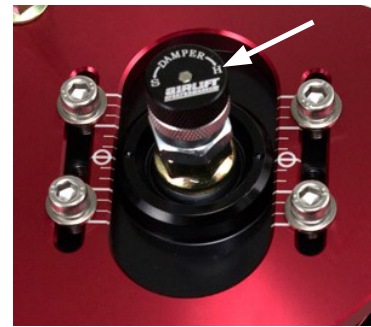

Fig. 1
3. Remove the damper adjustment knob from the top of the strut (Fig. 1).